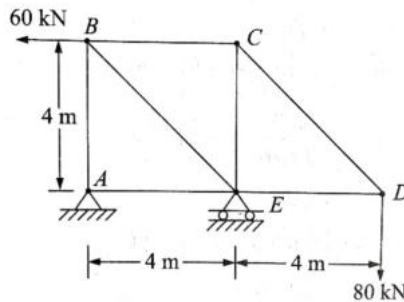

Figure 5.
6. Analyze the truss shown in figure 5, by the method of tension coefficient. Determine the forces in all the members. [14M]